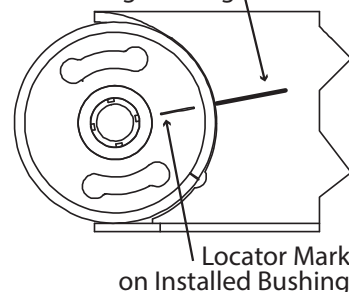

Fig. 1
1. Draw/scribe a line on the trailing arm beam using the locator mark on the installed bushing as a reference (Figure 1).